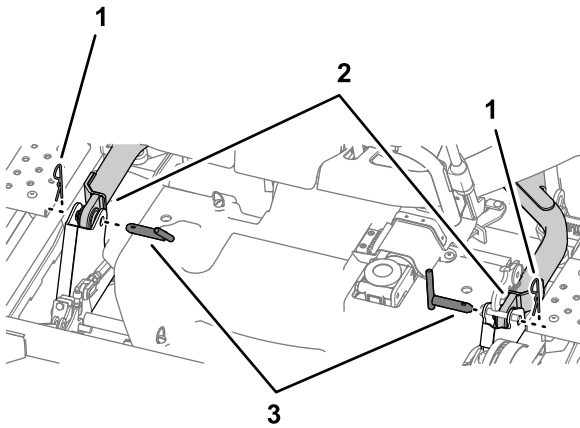

Figure 115
10. Remove the 2 lynch pins and 2 clevis pins that secure the lift arms at each side of the mower deck (Figure 115).
6. Install the lynch pin and clevis pin to secure the lift arms on each side; refer to Figure 115 in Removing the Mower Deck (page 75).